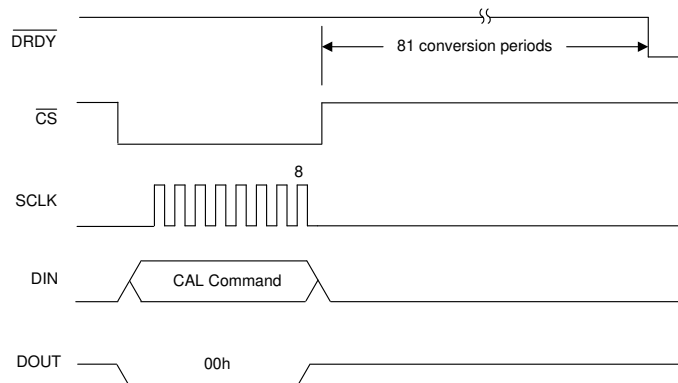

Figure 8-21. Calibration Command
- OFSCAL command. After the command is sent, $\overline{\text{DRDY}}$ is driven low 81 conversion periods later to indicate calibration is complete. The OFFSET register is updated with the new calibration value. As shown in Figure 8-21, the first data output uses the new OFFSET value.
- GANCAL command. Apply a positive dc full-scale calibration voltage. After the command is sent, $\overline{\text{DRDY}}$ is driven low 81 conversion periods later to indicate calibration is complete. The ADC calculates GAIN such that the full-scale code is equal to the applied calibration signal. As shown in Figure 8-21, the first data output uses the new GAIN value.